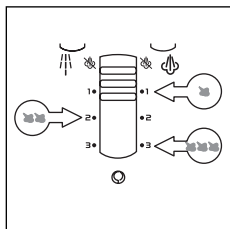

fig. 6
- Continuous steam delivery is obtained by turning the steam regulator to one of the positions between 1 and 3 ( =dry, 1=minimum steam, 2=medium steam, 3=maximum steam) (fig. 6). Steam delivery ceases whenever the iron is placed in a vertical position on the rear rest (position recommended during pauses in ironing) or with the iron horizontal when the steam regulator is in the dry position ().
- Plug in the iron and select the temperature, if there is water in the tank, turn the steam regulator to the dry position (fig. 6).
If during ironing, you note particularly resistant creases or if your garment requires a higher level of dampness, you can use the spray. Make sure the tank contains water. Press the spray button (fig. 6), directing the spray jet towards the parts of the garment to be dampened.